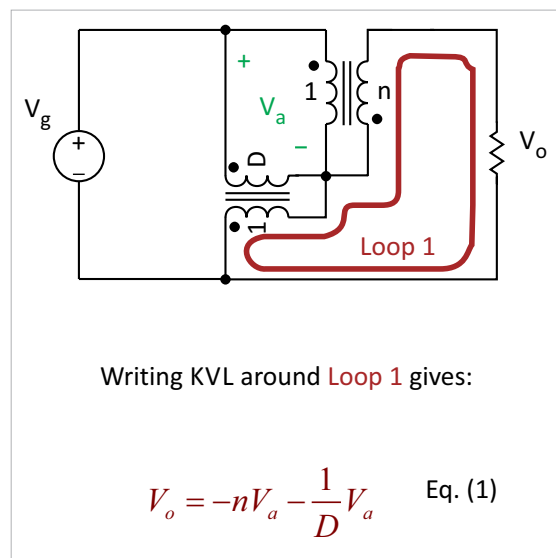

Figure 5: Solving for DC gain by applying KVL around the first loop of the tapped boost circuit.
Notice that the 1:D transformer of the DC model is not connected in a way that allows simple inspection for the circuit to find the gain. Solving the DC gain of the circuit is an exercise in applying Kirchoff's voltage law. Two voltage loops are identified for the circuit as shown in **Figure 5**.
First, we assign a value of V_a to the voltage across the two circuit transformers as shown in green. Then, moving around the loop in red, Equation (1) in Figure 5 gives the relationship between the output voltage and V_a .